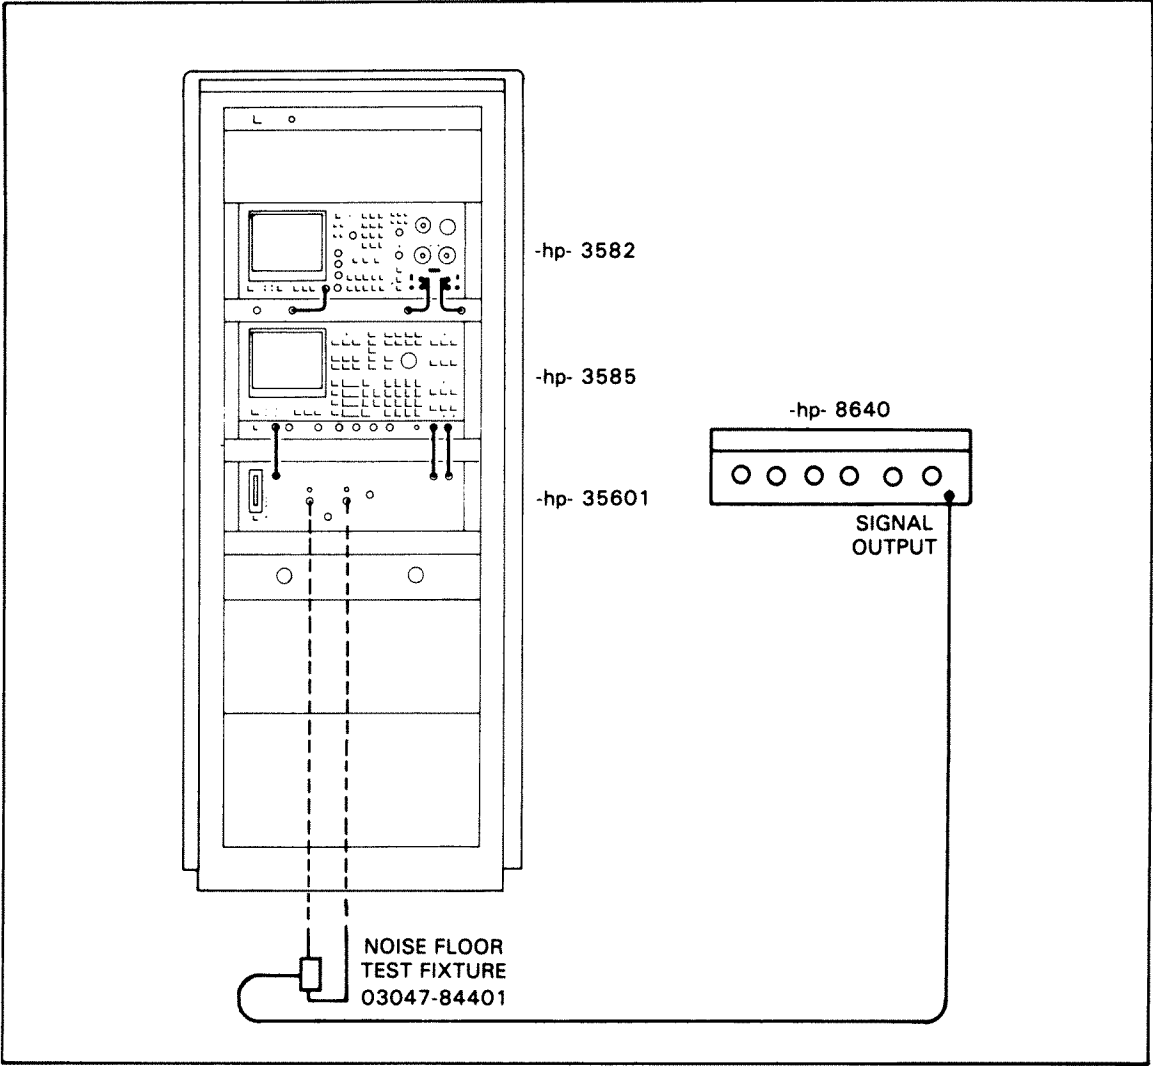

Figure 7-25. Noise Floor/Spur Equipment Set-up
- e. Set-up equipment as shown in Figure 7-25. Noise Floor Equipment Set-up.